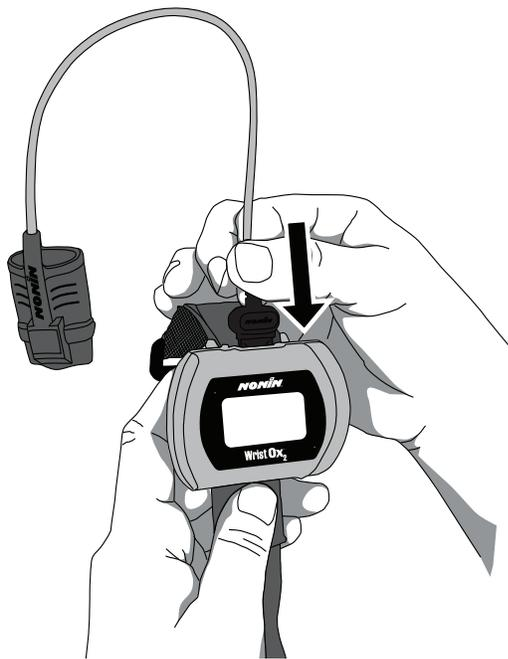

Figure 12: Attach Sensor
1. Insert the sensor connector into the sensor port at the top of the device (figure 12). The Nonin logo on the sensor connector should face the front of the device.